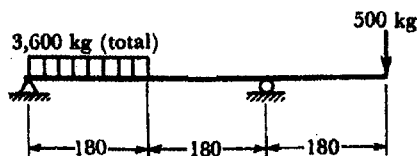

Fig. 5(a)
- 5.(a) Construct the complete shear force and bending moment diagram for the beam shown in Fig. 5(a). Also determine the maximum bending moment and the point of contra-flexure.